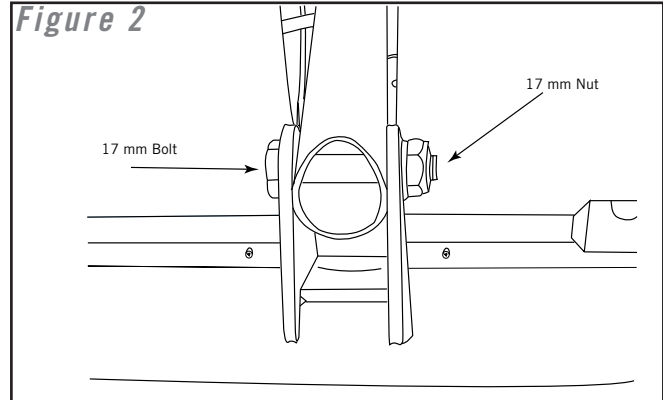

Figure 2
- 5) Remove bottom bolt attaching incline motor shaft to the main frame (Figure 2).